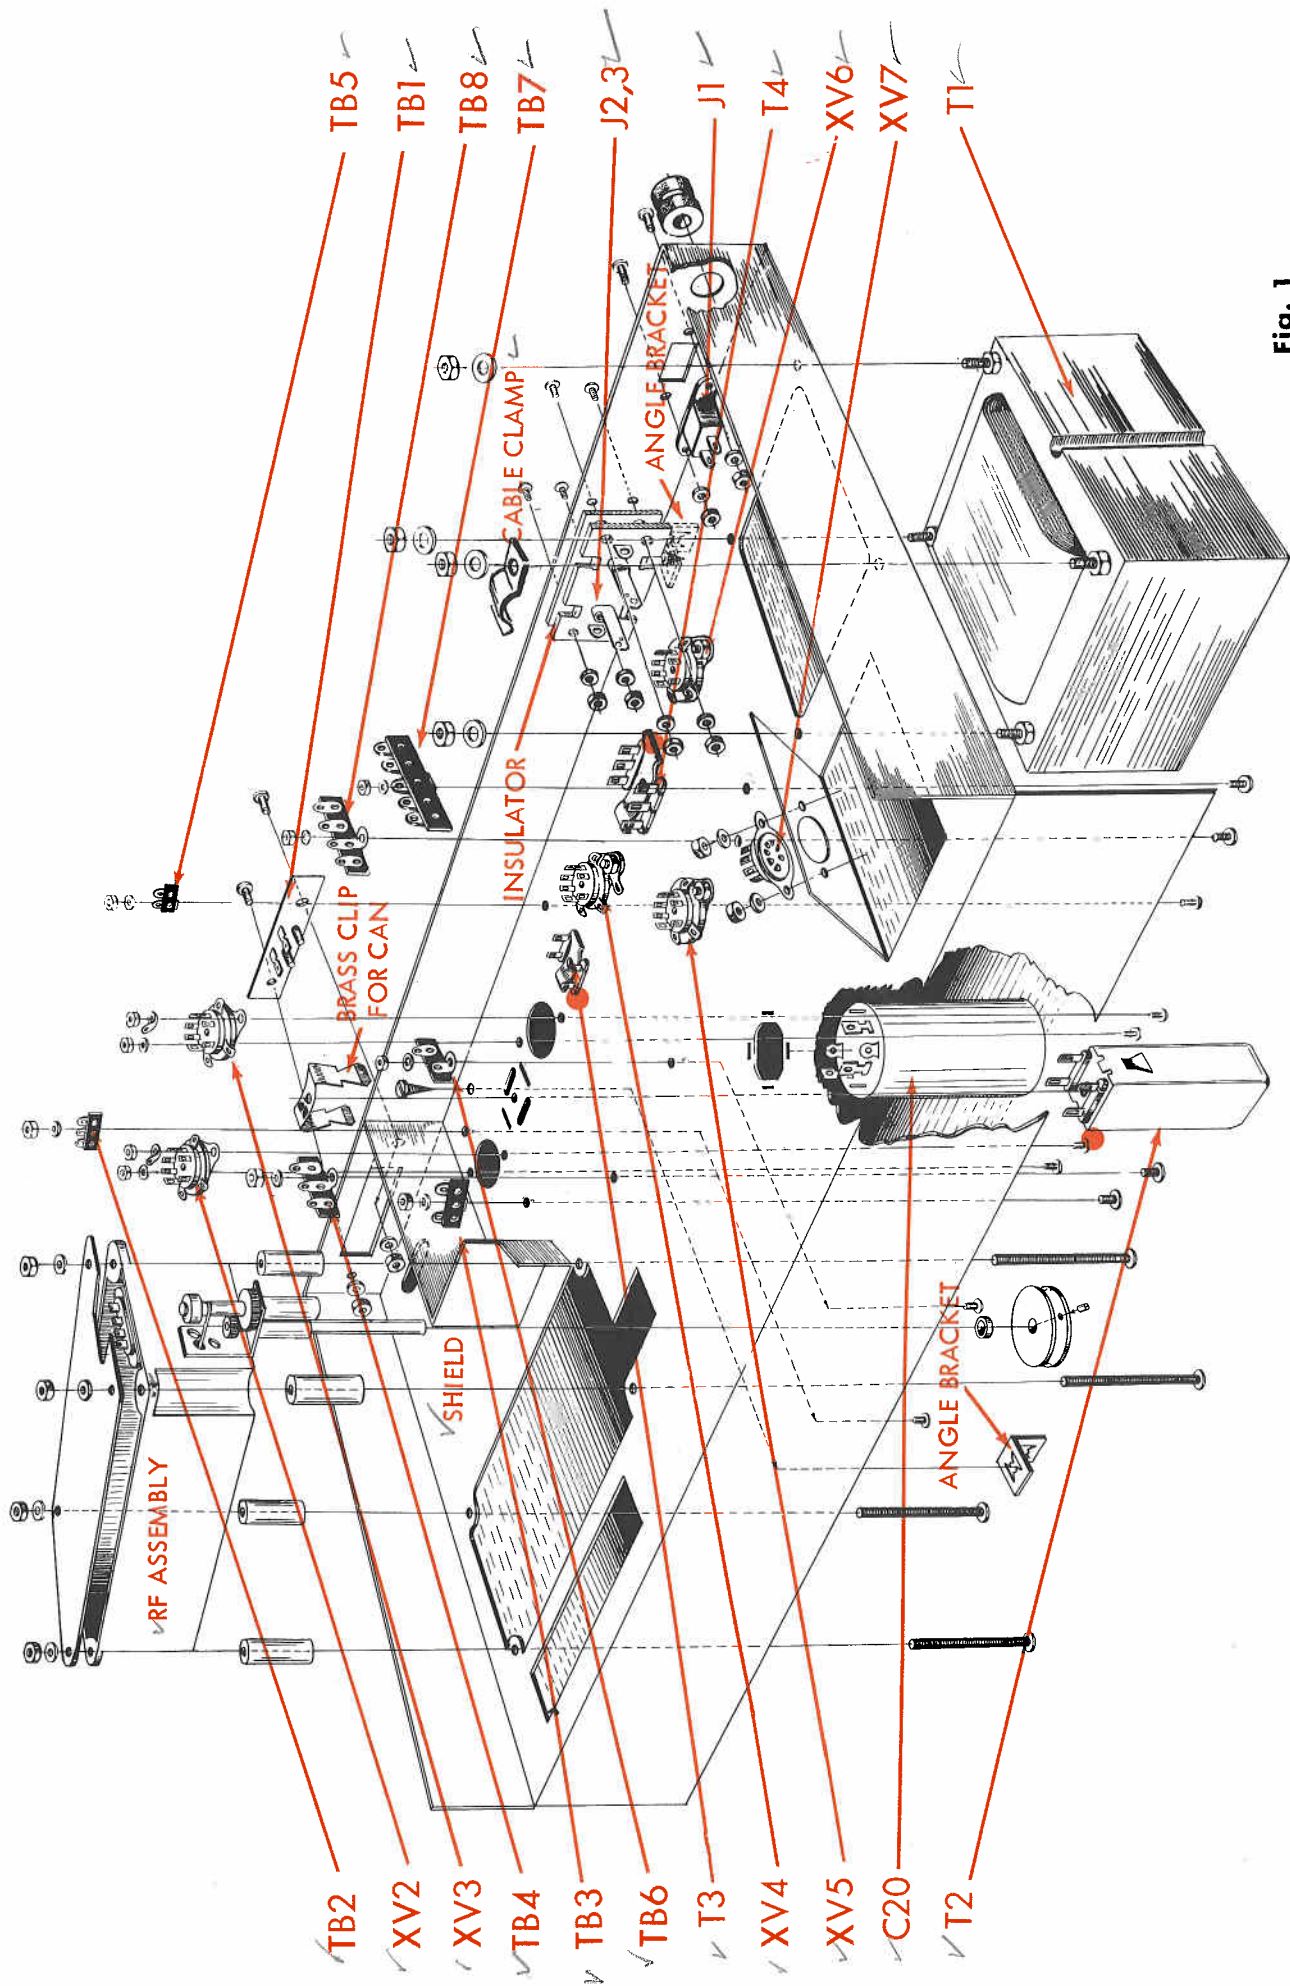
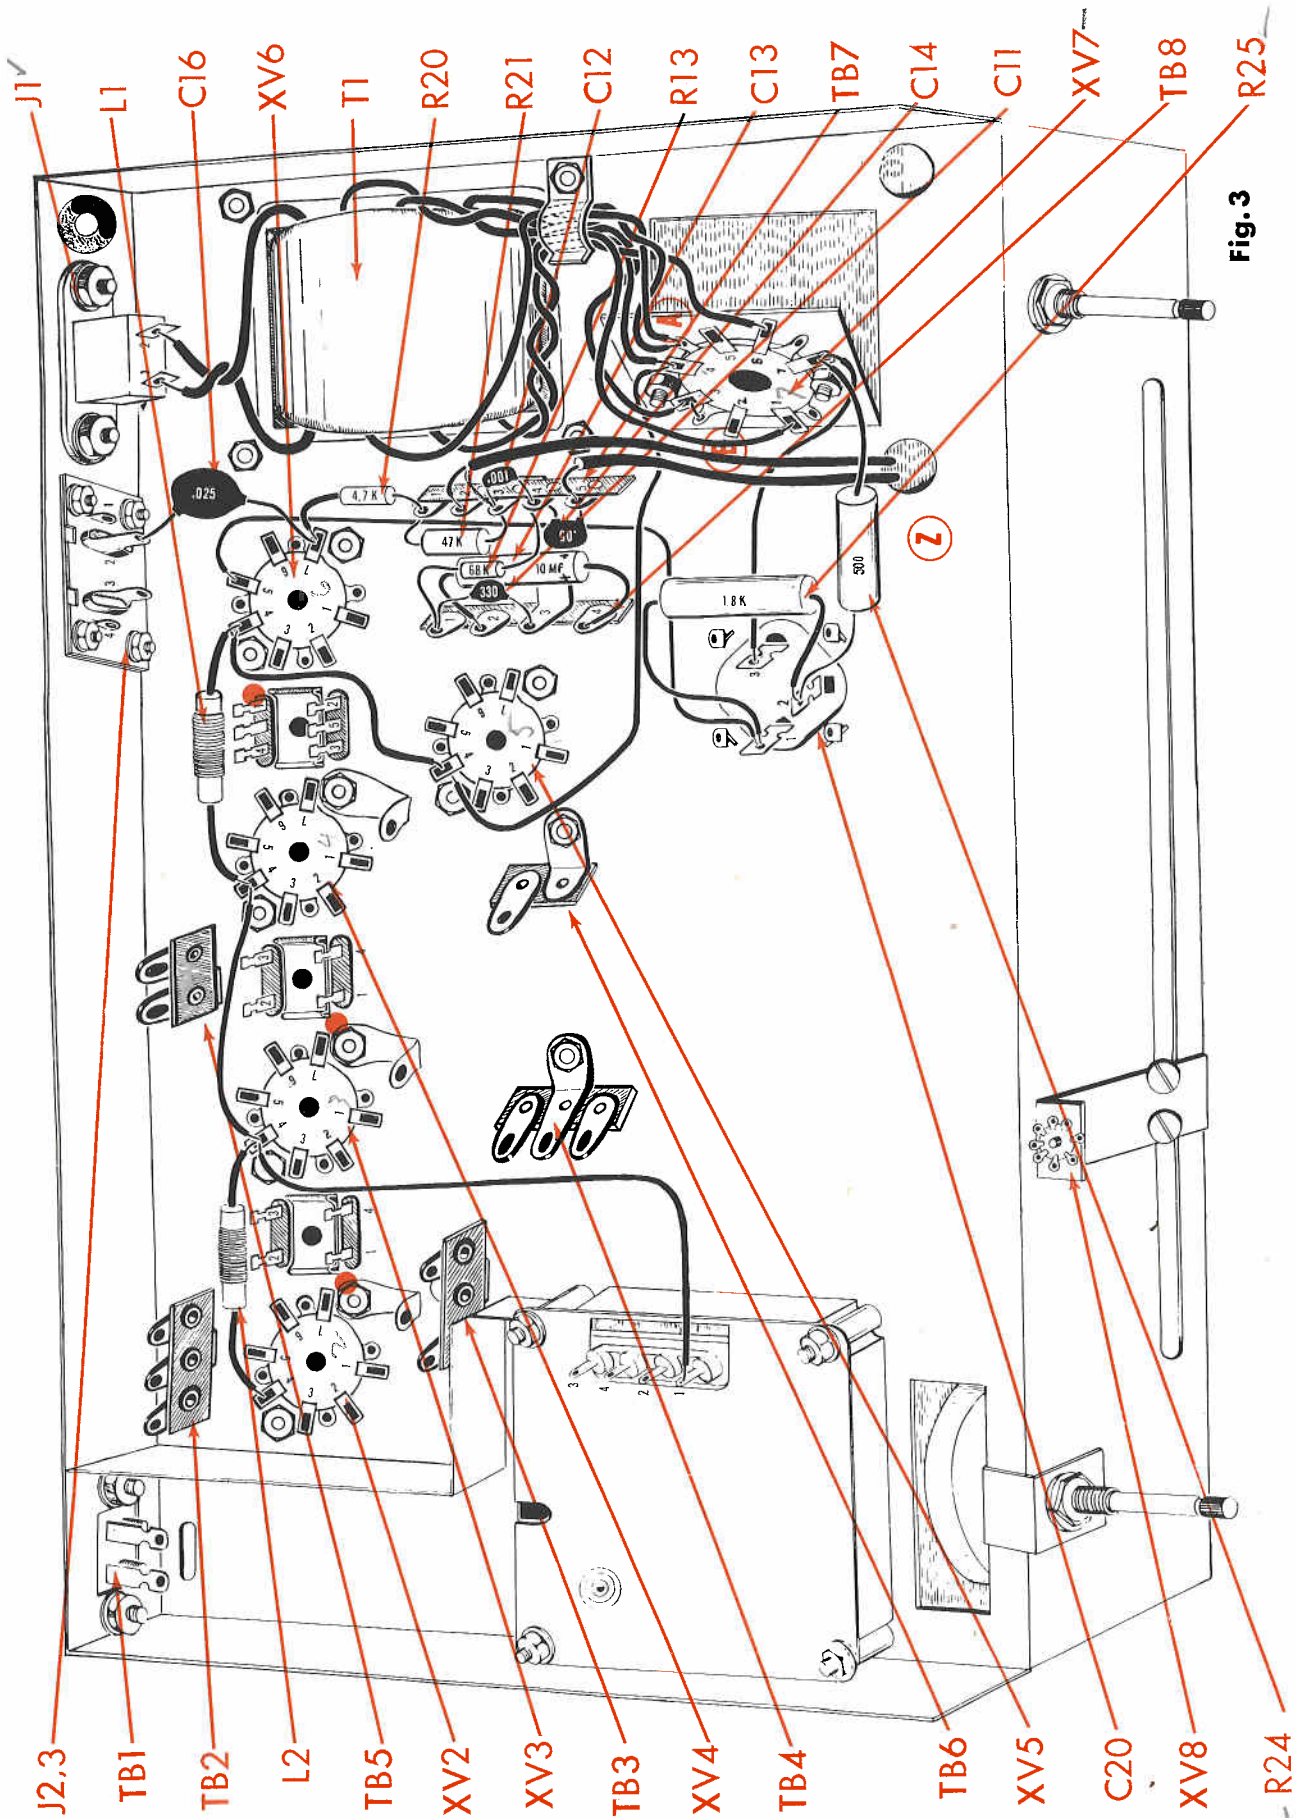

Fig. 1
Fig. 3
1. (✓) Fig. 1. Mount the power transformer, T1, as shown. Use 4 #8 lockwashers and 4 #8-32 hex nuts. Position the transformer so that the black leads are towards the rear of the chassis. When the leads on the transformer are wired, pay particular attention to the color of the lead and not to the exact physical placement on drawing. Position cable clamp as shown.
2. (✓) Fig. 1. Mount electrolytic can capacitor, C20, as shown. Note direction in Fig. 3. Twist all four tabs about 1/4 turn. Do not twist too much or the tabs will shear off. Solder one tab to chassis to assure a good ground contact.
3. (✓) Fig. 1. Mount 7 pin miniature tube socket, XV7, as shown. Use two #4-40 screws, two #4 lockwashers and two #4-40 hex nuts. (See Fig. 3)
4. (✓) Fig. 1. Mount 7 pin miniature tube sockets, XV2, XV3 and XV4, as shown. Use two #4-40 screws, one #4 lockwasher and two #4-40 hex nuts. Mount one #4 ground lug under one nut of each socket as shown.
5. (✓) Fig. 1. Mount 7 pin miniature tube socket, XV5 and XV6, as shown. Use two #4-40 screws, two #4 lockwashers and two #4-40 hex nuts.
6. (✓) Fig. 1. Mount the rectangular IF cans, T2, T3, and the rectangular ratio detector can, T4, as shown. Use special brass clip provided to hold each can. Position the cans so that the color dot (terminal 1) is as shown on Fig. 3. T2 - 34600, T3 - 34601, T4 - 34602. Each can is to be mounted using the following procedure. Orient the can as shown in figure 3. Push the plastic at the bottom of the can (in which the solder lugs are mounted) through the longer two of the four elongated slits (which surround the round hole). When this is done, the can stands on the top of the chassis. From the bottom of the chassis, insert the brass spring clip through the two remaining elongated slits, by spreading the clip apart slightly. Next, push one side of the clip up far enough so that it will catch in the "Y" shaped hole at the side of the can. Hold the can firmly against the top of the chassis with one hand. With the index finger of the other hand, working from the bottom of the chassis, push the clip up until it "clicks" into the remaining "Y" shaped hole in the other side of the can. Repeat this for each of the three cans.
7. (✓) Fig. 1. Mount convenience outlet, J1, as shown. Use two #6-32 screws, two #6 lockwashers and two #6-32 hex nuts.
8. (✓) Fig. 1. Mount dual output jack, J2, 3, as shown. Mount the bakelite insulator between the jack and the chassis. Use four #6-32 screws, four #6 lockwashers and four #6-32 hex nuts on each.
9. (✓) Fig. 1. Mount the shield in the position as shown. Twist the tabs about 1/4 turn. Do not twist too much or the tabs will shear off. Solder one tab to chassis to assure a good ground contact.
10. (✓) Fig. 1. Mount two screw terminal board, TBI, as shown. Use two #6-32 screws, two #6 lockwashers, and two #6-32 hex nuts. Mount the shield under one of the lockwashers as shown.
11. (✓) Fig. 1. Mount two post with ground terminal board, TB2; two post terminal board, TB3; two post with ground terminal board, TB4; one post left with ground, terminal board, TB5; one post right terminal board, TB6; four post with ground terminal board, TB7; and three post two right with ground terminal board, TB8, as shown. Use one #6-32 screw, one #6 lockwasher and one #6-32 hex nut on each.
12. (✓) Fig. 1. Mount the two angle brackets on the top, near the rear of the chassis as shown. Use one #8 self tapping screw on each.
13. (✓) Fig. 1. Mount the RF assembly as shown. Use four #6-32 x 1 1/8" screws, four 11/16" aluminum spacers, four #6 lockwashers and four #6-32 hex nuts. Before you place the RF assembly cover on the unit, be sure that the coaxial cable is passed thru the notch provided. Be extremely careful not to disturb any of the wires or components inside the assembly.
14. (✓) Fig. 1. Mount the 3/8" rubber grommet in the hole provided on the rear flange.
1. (X) Fig. 3. Cut the two black leads from the power transformer, T1, to 2 1/2". Twist once as shown. Connect one lead to convenience outlet J1-1 (C) and the other lead to J1-2 (C).
2. (X) Fig. 3. Connect a 5" piece of brown wire from XV7-4 (C) to XV5-4 (C).
3. (X) Fig. 3. Cut the two green leads on the power transformer, T1, to 5". Twist and pass under cable clamp as shown. Connect one lead to XV7-3 (C) and the other lead to XV7-4 (S).
4. (X) Fig. 3. Cut the two red leads on power transformer, T1 to 5". Twist and pass under cable clamp as shown. Connect one lead to XV7-1 (S) and the other lead to XV7-6 (S).
5. (X) Fig. 3. Cut the white lead on power transformer, T1 to 5" and the red-white lead to 4". Twist and pass under cable clamp as shown. Connect both leads to ground lug "A" (S) on XV7.
6. (X) Fig. 3. Connect a 1/2" piece of bare wire from XV7-3 (S) to ground lug "B" (S) on XV7.
7. (X) Fig. 3. Connect a 2 1/2" piece of red wire from XV7-7 (C) to C20-3 (S).
8. (X) Fig. 3. Strip the outer insulation back 3/4" at each end of the black single conductor cable. Twist the shield braid on each end. Strip the insulation 1/4" on the inner conductor of each end. Connect the inner conductor of one end to TB7-2 (C) and the shield braid of the same end to TB7-3 (C). Run the lead along the chassis as shown and push the remainder of the lead through hole "Z".
9. (X) Fig. 3. Strip the outer insulation back 3/4" at each end of the grey single conductor cable. Twist the shield braid on each end. Strip the insulation 1/4" on the inner conductor of each end. Connect the inner conductor of one end to TB7-5 (C) and cut off the shield braid of the same end. Run the lead along the chassis as shown and push the remainder of the lead through hole "Z".
10. (X) Fig. 3. Cut both leads on the 500Ω, 5W, wire wound resistor, R24, to 1". Put a 3/4" piece of spaghetti over one end and connect to XV7-7 (S) and connect the other end to C20-2 (C). Dress away from shielded leads.
11. (X) Fig. 3. Cut one lead on the 1.8kΩ, 5W, wire wound resistor, R25 to 1" and the other lead to 1 1/2". Cover the shorter lead with a 3/4" piece of spaghetti and connect to C20-2 (C). Cover the other lead with a 1 1/4" piece of spaghetti and connect to C20-1 (C).
12. (X) Fig. 3. Connect a 3" piece of brown wire from XV5-4 (C) to XV6-4 (C).
13. (X) Fig. 3. Cut both leads on choke, L1, (one of the two larger chokes) to 1 1/4" and cover each with a 1" piece of spaghetti. Connect one lead to XV6-4 (S) and the other lead to XV4-4 (C). Do not press coil to chassis.
14. (X) Fig. 3. Connect a 3 1/2" piece of brown wire from XV4-4 (C) to XV3-4 (C).
15. (X) Fig. 3. Cut both leads on choke L2, (the other large choke) to 1 1/4" and cover each with a 1" piece of spaghetti. Connect one lead to XV2-4 (C) and the other lead to XV3-4 (C). Do not press coil to chassis.
16. (X) Fig. 3. Connect one end of a 6" piece of brown wire to XV3-4 (S) and the other end to terminal 1 (S) on the RF A assembly A1. Apply a minimum of heat to the terminal to prevent damage.